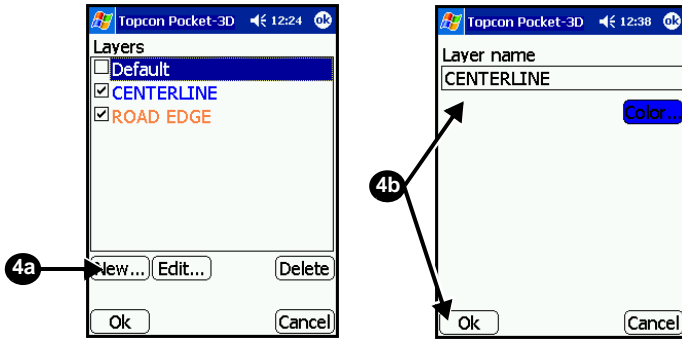

Figure B-16. Add Layers to Linework File
4. Press **New**. Enter a name for the layer and the layer's parameters. Press **Ok** (Figure B-16 on page B-12).